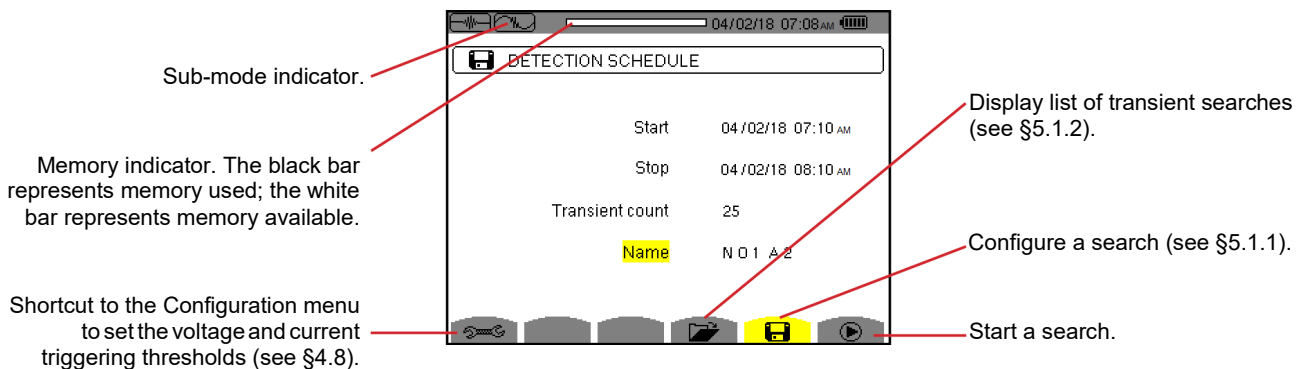

Figure 5-2
- If no recording has been made, the Detection Schedule screen is displayed (Figure 5-2).